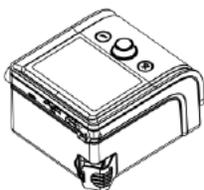

Fig. 12-2
(2) Install the filter cap containing the air filter to the main device, as shown in Fig.12-2.